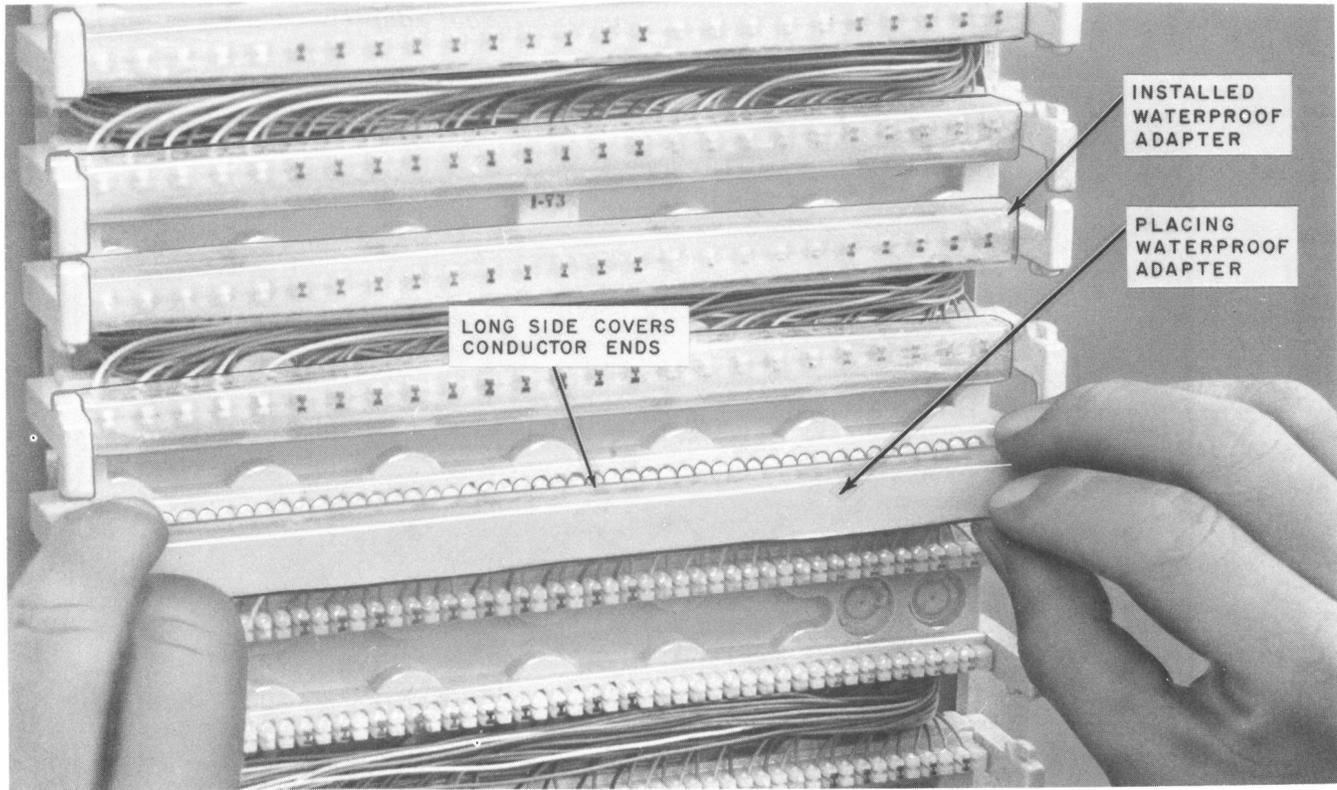

Fig. 20—Placing Waterproof Adapter
9.01 Position the waterproof adapter *so the long side of the adapter will cover the conductor ends*, then place the open end of the adapter over the index strip (Fig. 20).